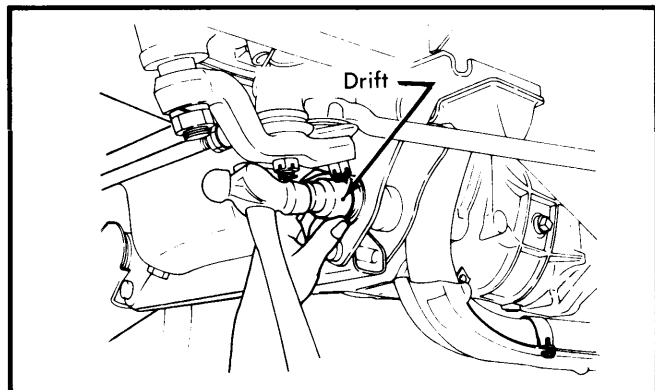

Fig. 5 Removing Bushings from Lower Control Arm
4) Using a suitable drift, (KV40102000), drive out lower control arm bushings. See Fig. 5.